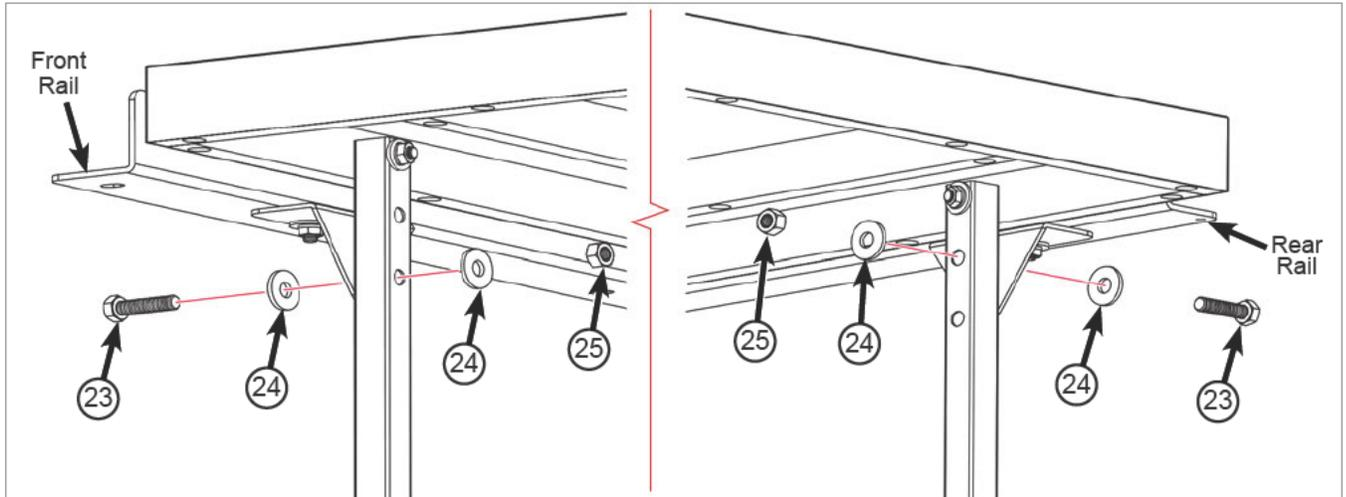

Fig. 23
- Attach each support leg to the corresponding leg support bracket with an M10 x 40 hex head bolt, two M10 washers, and an M10 lock nut, as shown in Fig. 23, and fully tighten the bolts using two 17 mm wrenches. Note that the leg support brackets align with different holes in the front and rear legs because the brackets are at different elevations.